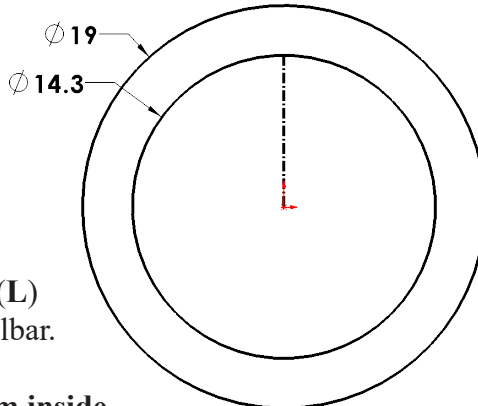

Fig. 3
Step 8. Sketch a **vertical centerline from the Origin**  **up to inside circle**, **Fig. 3**.